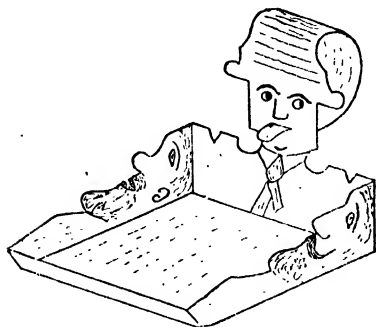
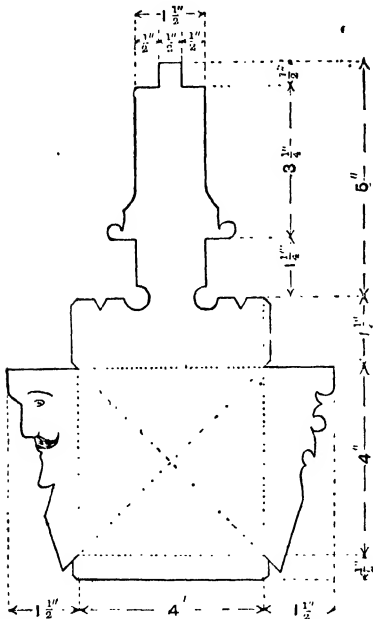

Fig. 157.—Flat Cardboard Tray.
Fig. 161.—Pattern for Flat Cardboard Tray.
**Cardboard Trays.**—Figs. 157 to 160 show easily made trays. To make Fig. 157 draw a plan as shown in Fig. 161. The